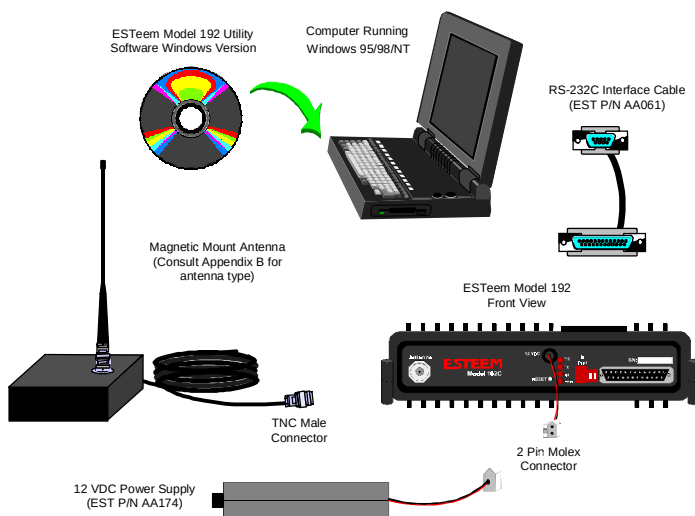
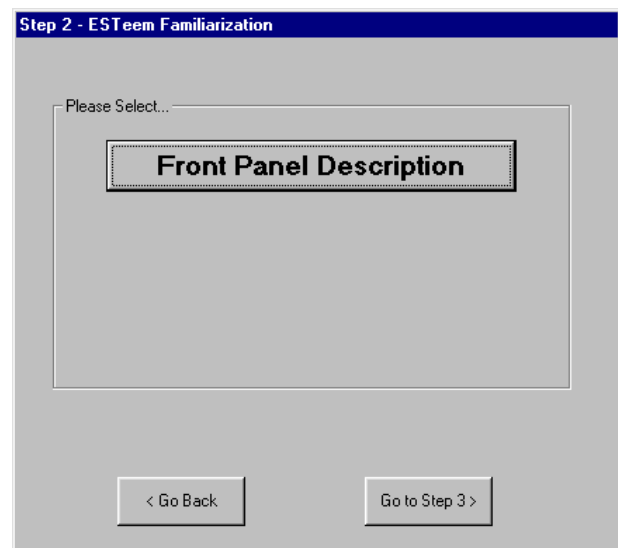

Figure 1: Installation Diagram
Figure 6: Step 2 – ESTeem Familiarization
3. Step 2 – ESTeem Familiarization window will be displayed (Figure 6). This step will explain the connections to ESTeem Model 192 front panel. See Figure 1 for a setup diagram.
Note: A standard 9-Pin serial port on a computer to ESTeem interface cable is the ESTeem AA061 (Figure 1).